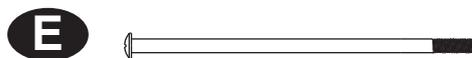

Figure 7
1. Lay the upper assembly on a non-abrasive surface, such as the carton or a table. Remove the 8 pre-installed screws from the back panel of the upper post. These are identical to hardware **A**. (Figure 7)